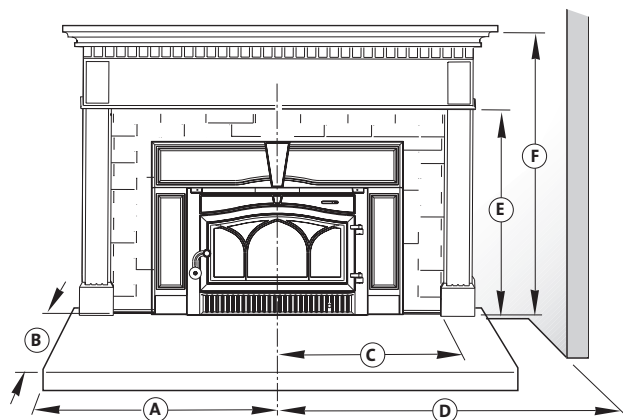

Figure 5. Minimum clearance to combustible materials
- B) Sides** - Protection must extend 17 1/4 inches (438 mm) to both sides of the center-line of the insert. See fig 5.